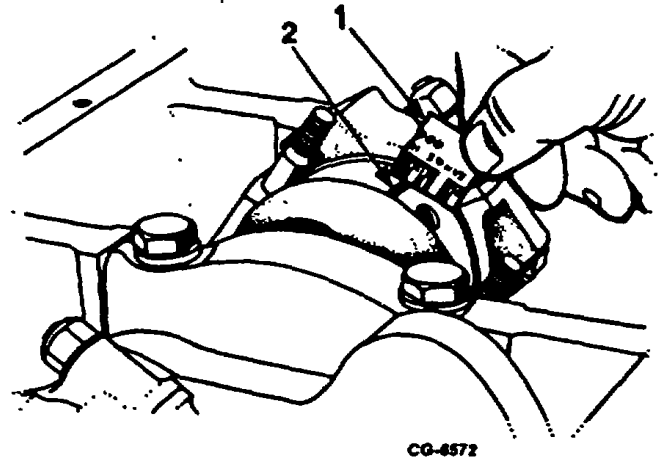

Figure 86. Checking Connecting Rod Bearing Clearance
- d. Remove bearing cap and use Plastigage scale to measure widest point of Plastigage (Figure 86). This reading indicates bearing clearance in thousandths of an inch.